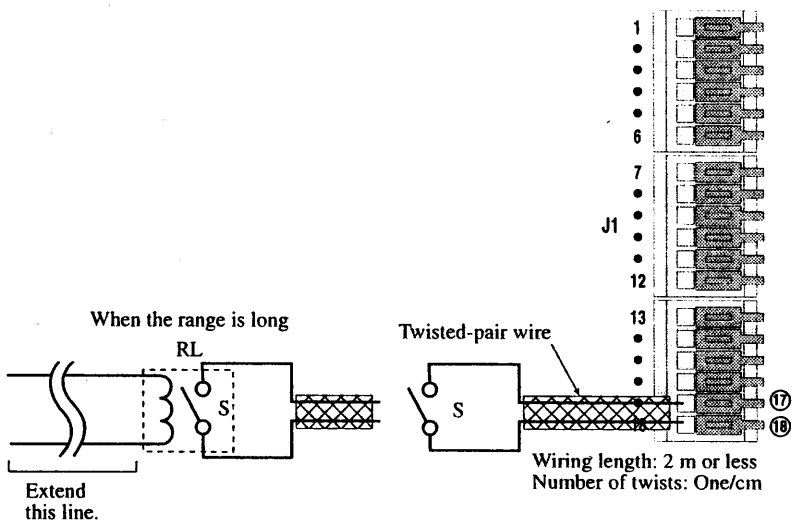

Fig. 4-8 Connecting contact S
2. As shown in Fig. 4-8, connect contact S (switch) to terminals 17 and 18 on the J1 terminal board.